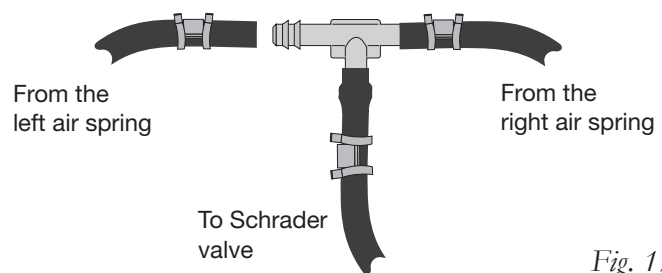

Fig. 17
4. Use this procedure (Fig. 17) for all air line connections: